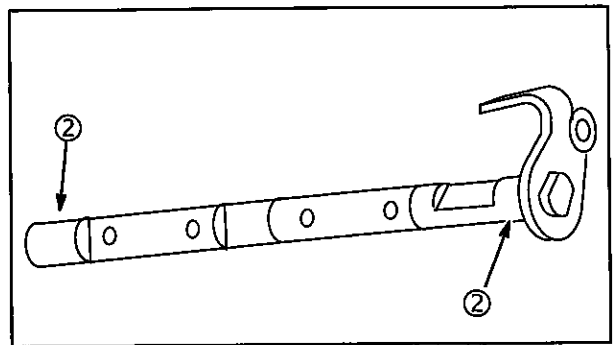

Fig. 116
2. Inspect throttle shaft and choke shaft for wear on the shaft bore surfaces (2), **Fig. 116**.